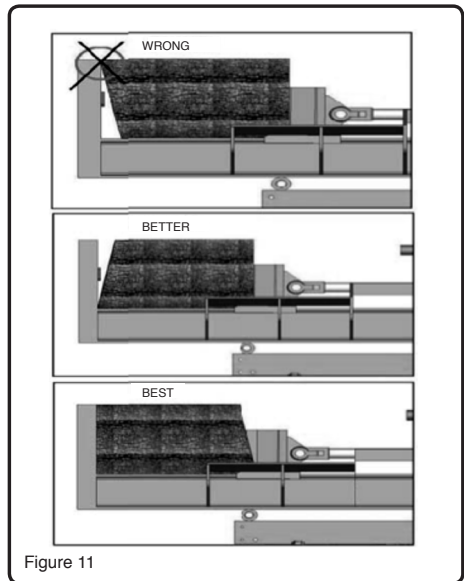

Figure 11
3. Load a log onto the beam against the endplate. Grasp the log from the sides and not the ends. (Max Log Length-26"). (See fig. 11)